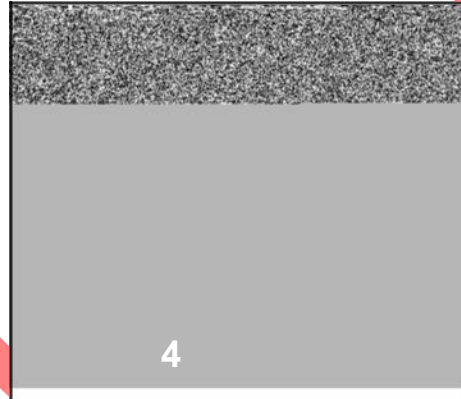

Figure 15
2. Remove the float hinge pin (C, Figure 15), float (D), and inlet needle (E). If the needle has a metal tip, also remove the soft needle seat in the carburetor body.